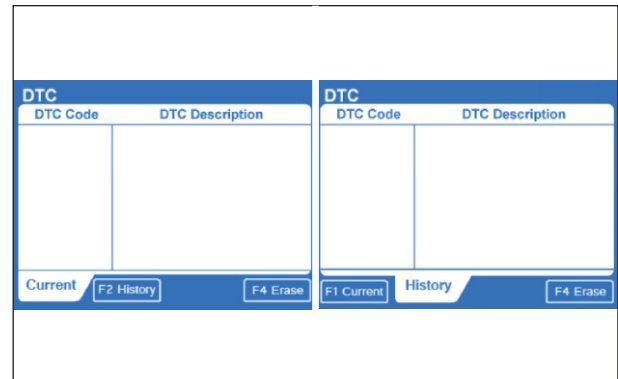

Fig. 7.16
- Current and History page after erasing the rectified errors. (Fig. 7.16)